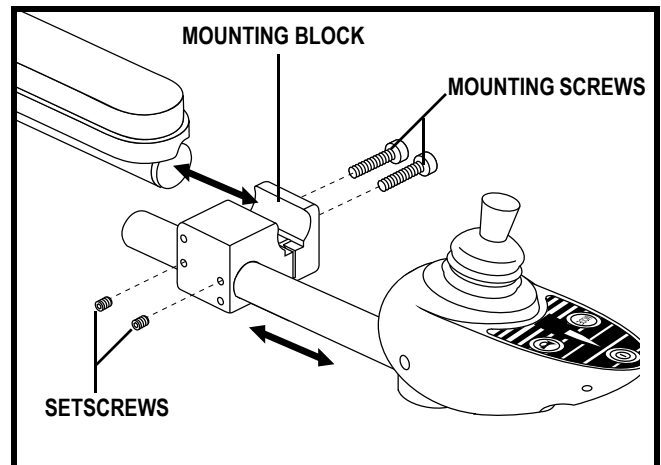

Figure 12. Adjusting Controller Position
4. Loosen the mounting screws in the controller mounting block. See figure 12.
2. Loosen the setscrews in the controller mounting block. See figure 12.